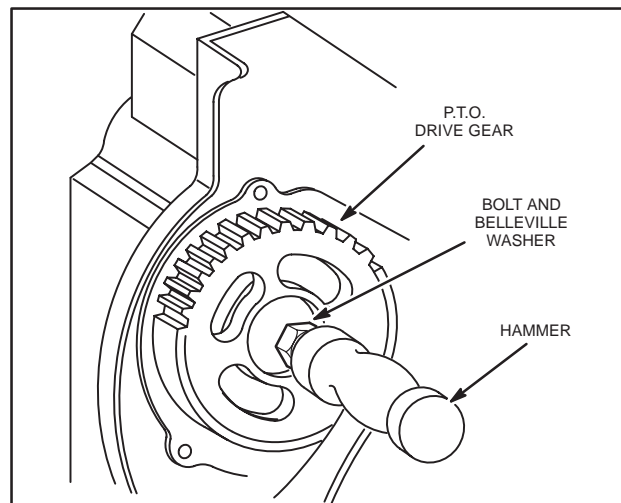
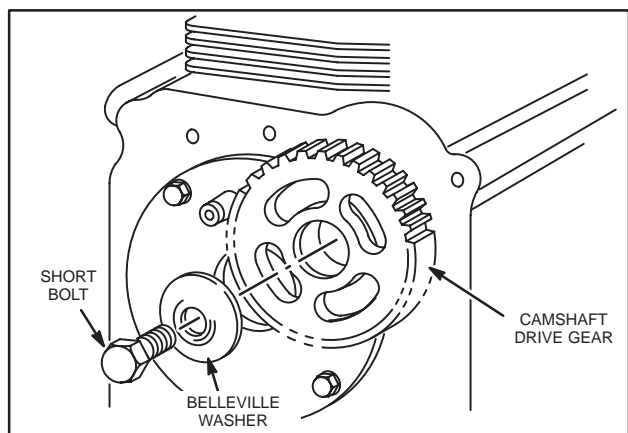

Fig. 871 – REMOVE LONG BOLT
Fig. 870 – REMOVE SHORT BOLT
1. Remove short bolt and Belleville washer from PTO drive gear, Fig. 870.
2. Loosen long bolt and Belleville washer two (2) turns on magneto side and tap head of bolt with hammer to loosen cam gear shaft.
3. Turn bolt out while pushing out cam gear shaft, Fig. 871.
1. Loosen long bolt two (2) turns.
4. Remove bolts and camshaft bearing, Fig. 871.